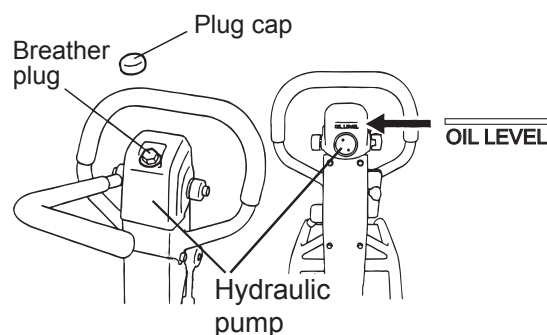

Figure 31. Removing Plug/Breather Cap
1. With the handle in vertical position, remove the plug cap from the hydraulic pump (Figure 31).
8. Pour hydraulic oil (550 cc) to the hydraulic pump breather plug attachment hole (Figure 31).